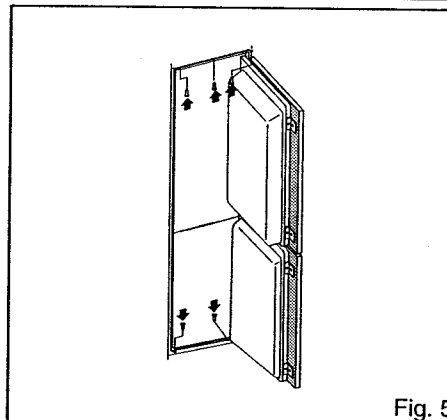

Fig. 5
- Fix the appliance into the kitchen unit. On the upper side, fix the three screws through the rail and on the lower side with two screws, through the lower hinges. Drill holes, $\varnothing 2,5 \times 5$ (Fig. 5).